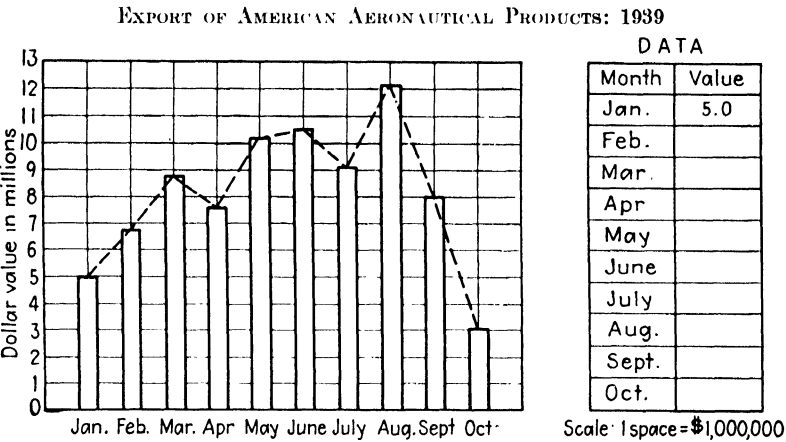

Fig. 144.
An examination of the broken-line graph in Fig. 144 will show that it differs in no essential way from the bar graph. If the top of each bar were joined by a line to the top of the next bar, a broken-line graph would result.
a. Construct a table of data for the graph in Fig. 144.